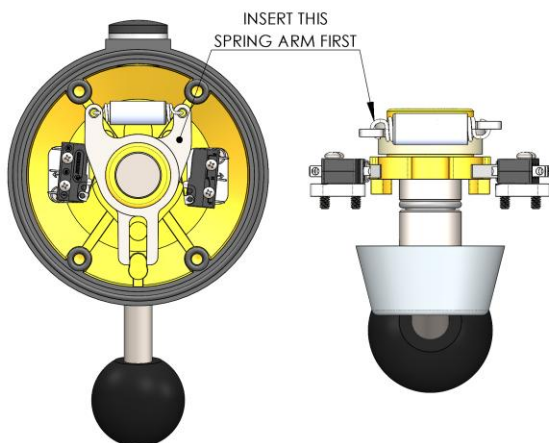

Figure 13: 7170 Spring Arm Order
- d. Refer to Figure 13 for spring arm orientation/order.